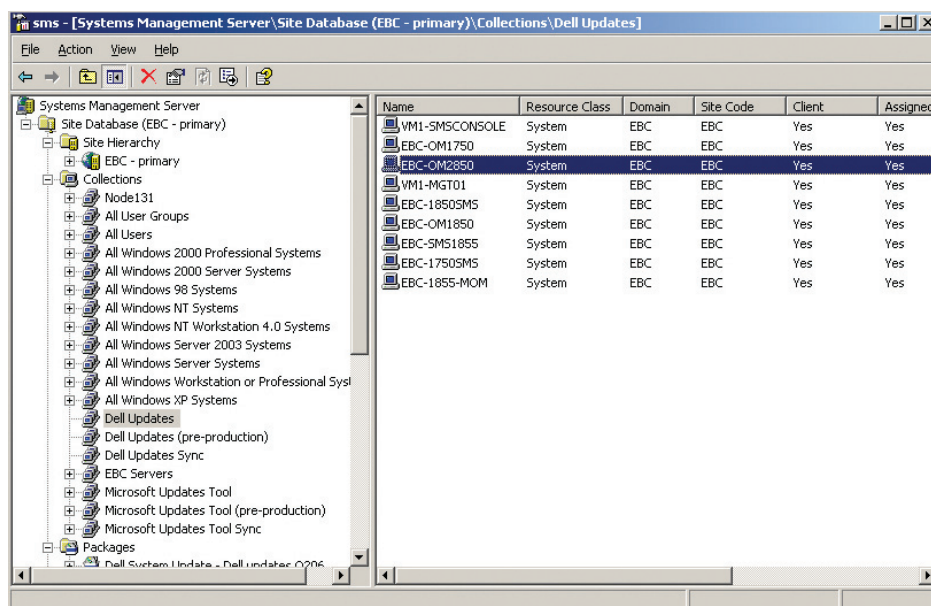

Figure 1. Access to Dell updates following installation of the SMS 2003 Inventory Tool for Dell Update within an SMS site
**T**he Microsoft Systems Management Server (SMS) 2003 Inventory Tool for Dell Update (ITDU) helps administrators update Dell™ PowerEdge™ servers with the latest system BIOS; system firmware, also known as Embedded Server Management (ESM) firmware; remote access controller firmware; RAID controller firmware; and device drivers. This tool utilizes the existing software update management feature of SMS 2003 Service Pack 1 (SP1) and later to help automate the update process for Dell systems, minimizing the resources required to transport Dell Update Packages across a network. Once the SMS 2003 ITDU software is installed, the SMS console interface seamlessly provides access to its set of Dell update capabilities (see Figure 1).